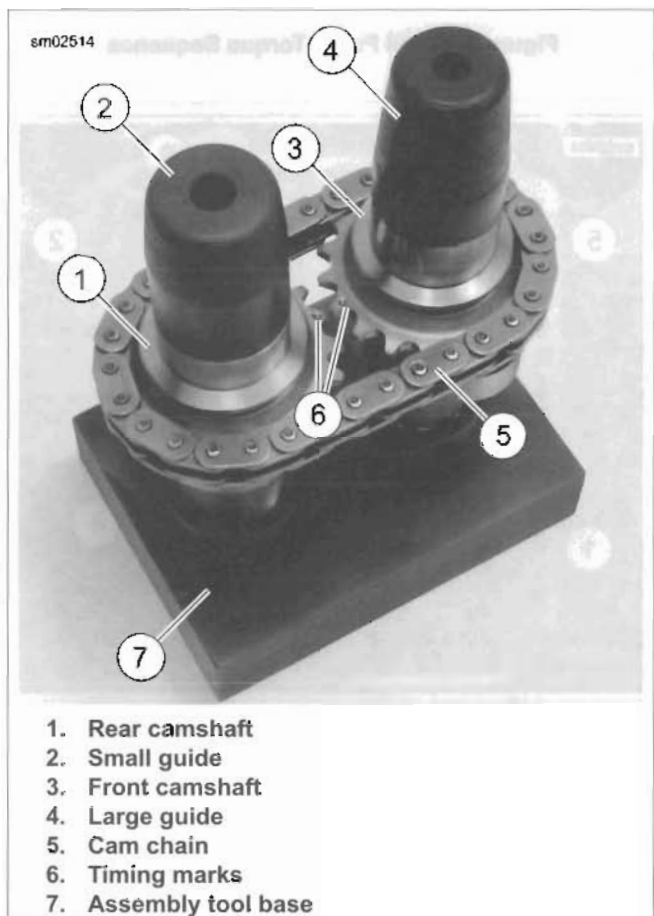
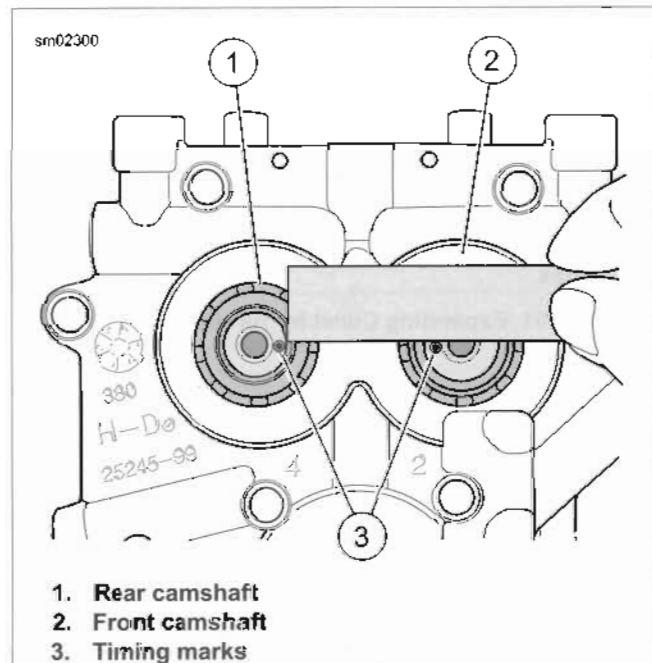

Figure 3-97. Camshaft Assembly Tool
Figure 3-98. Verify Alignment of Timing Marks
3. See Figure 3-97. Obtain CAMSHAFT ASSEMBLY TOOL (Part No. HD-47956). Place crankcase side of camshaft/cam chain assembly into assembly tool base (7) while maintaining cam timing mark (6) alignment.
4. Place small guide (2) on rear camshaft (1). Place large guide (4) on front camshaft (3).
8. See Figure 3-98. Using a straightedge, verify that the timing marks are in alignment. If they are not, then the camshafts must be removed, realigned and reinstalled.